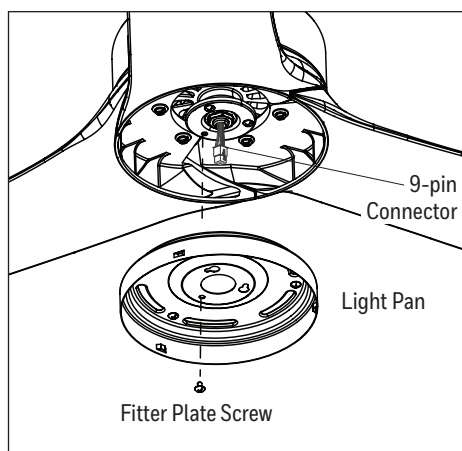

Figure 5.5
5. Feed the 9-pin connector through the center hole in the light pan. Align the keyhole slots in the light pan with the loosened screws in the fitter plate. Turn light pan clockwise and replace the previously removed fitter plate screw. Tighten all screws (Figure 5.5).